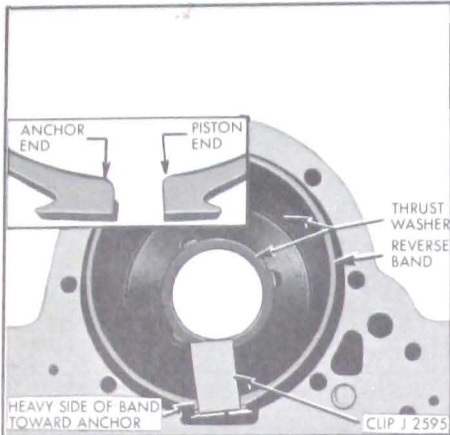

Figure 5-109—Thrust Washers and Reverse Band Installed
2. Compress ends of reverse band with band installing clip, J-2595 and install in case. When installing band make certain that the heavy side of the band is in the correct position so that it will attach to the reverse anchor and not to the strut. See Figure 5-109. Remove the clip.